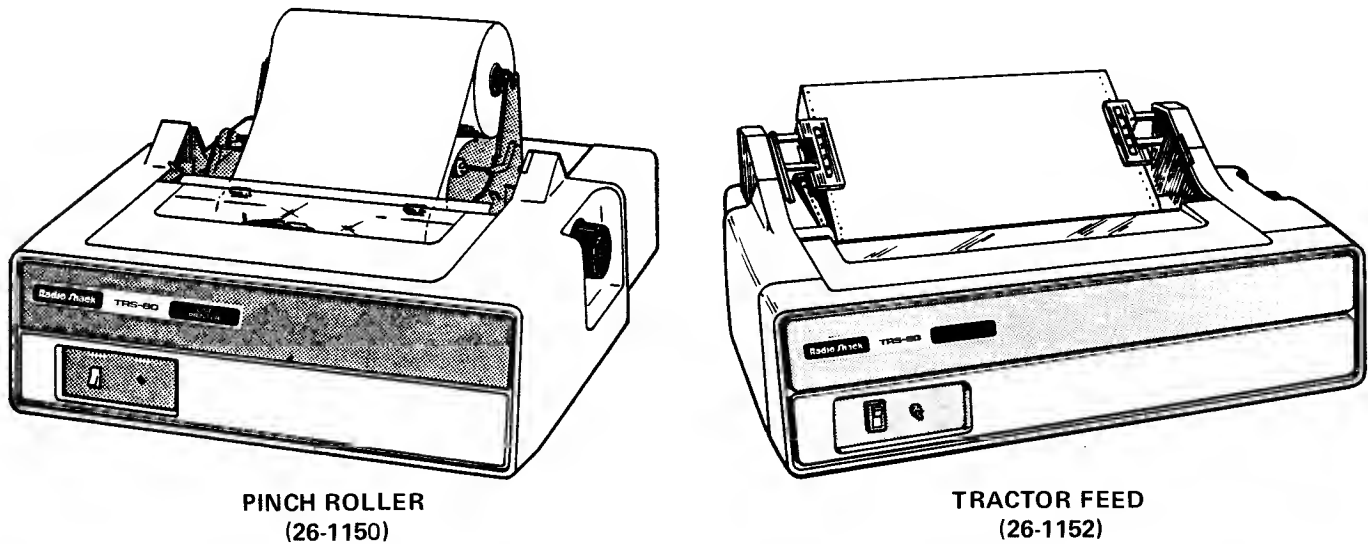

Figure 1-1. LINE PRINTERS
1.1 GENERAL DESCRIPTION (Figure 1-1)
The printers shown in Figure 1-1 are 60 character-per-second, uni-directional impact printers with an effective throughput of 21 to 90 lines per minute at 10 characters per inch; and up to 132 columns of operator variable density (10 to 16.5 characters per inch). The pinch roller (26-1150) unit prints in 8 inch lengths on roll paper up to 9.8 inches (250 mm) wide, while the tractor drive model (26-1152) prints in 8 inch lengths on paper 12.1 inches (307 mm) wide.